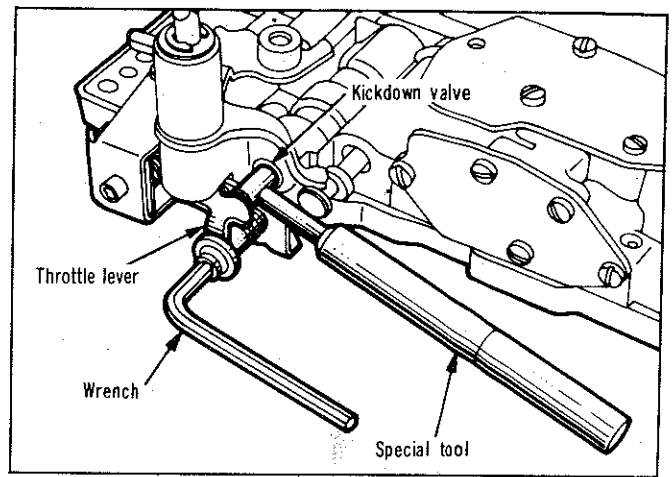

Fig. 16—Throttle pressure adjustment
(1) Remove valve body assembly from transmission to perform adjustment.
(2) Loosen throttle lever stop screw lock nut and back off approximately five turns (Fig. 16).
(3) Insert gauge pin of Tool E21C55 between the throttle lever cam and kickdown valve.
(4) By pushing in on tool, compress kickdown valve against its spring so throttle valve is completely bottomed inside the valve body.
(5) As force is being exerted to compress spring, tighten throttle lever stop screw finger tight against throttle lever tang with throttle lever cam touching tool and the throttle valve bottomed. **Be sure adjustment is made with spring fully compressed and valve bottomed in the valve body.**
(6) Remove tool and tighten stop screw lock nut securely.